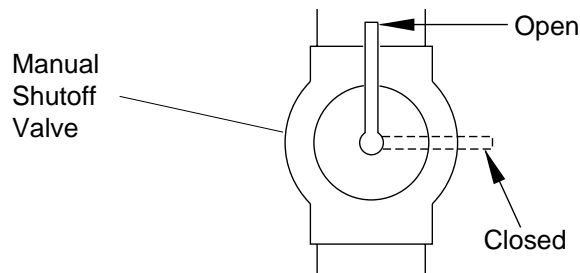

Figure 14 - Manual Shutoff Valve
1. Locate two bottom mounting holes. These holes are near bottom on back panel of heater (see Figure 14).
1. Close manual shutoff valve (see Figure 14).
1. Open manual shutoff valve (see Figure 14).